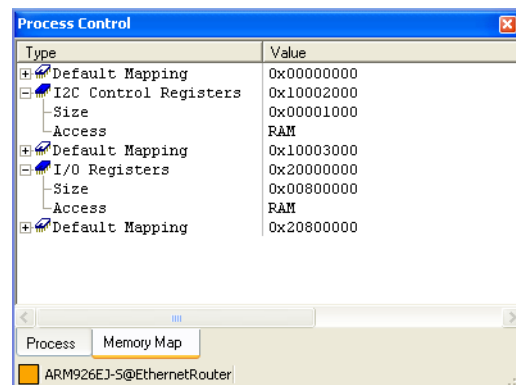

Figure 5-11 New memory map in the Process Control view
2. Select **Memory Map Tab** from the **View** menu to display the new memory map. Figure 5-11 shows an example: